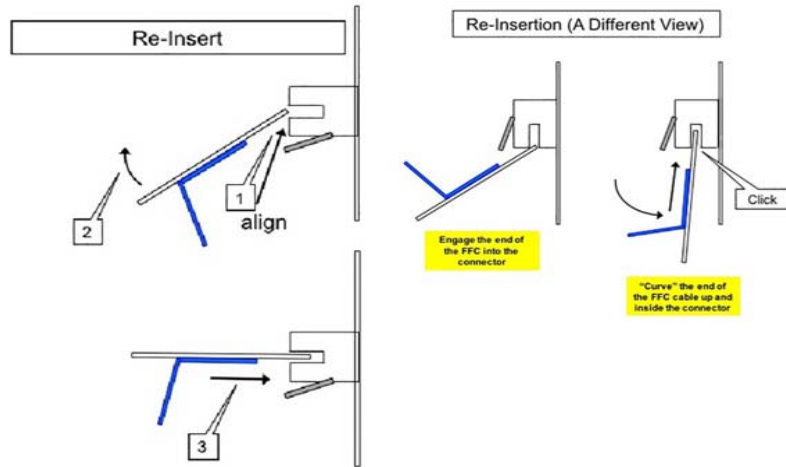

Figure 2 Proper FFC Cable Insertion.
3. Refer to Figure 2, grasp the grip tab of the FFC cable placing the back, or non-conductive side, of the FFC cable against the edge of the connector and centered to the connector.